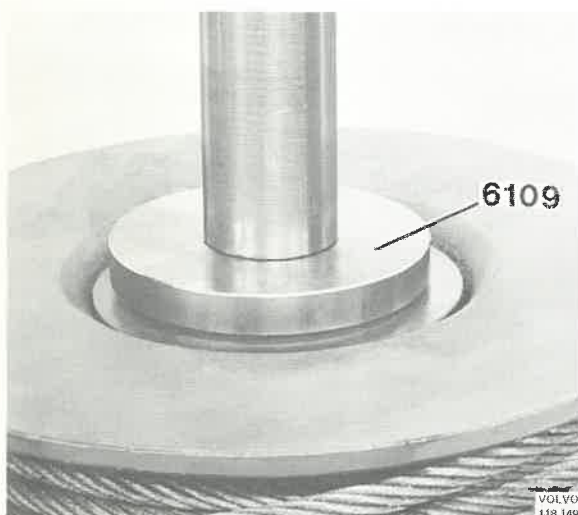

Fig. 92-86. Pressing in the seal
26. Press the seal into the drum with 6109, see Fig. 92-86. Coat the lips on the seal with sealing agent.